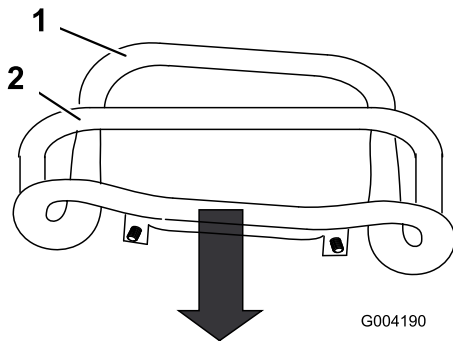

Figure 53
3. Pull straight back on the traction control so the front of the control contacts the reference bar (Figure 53).